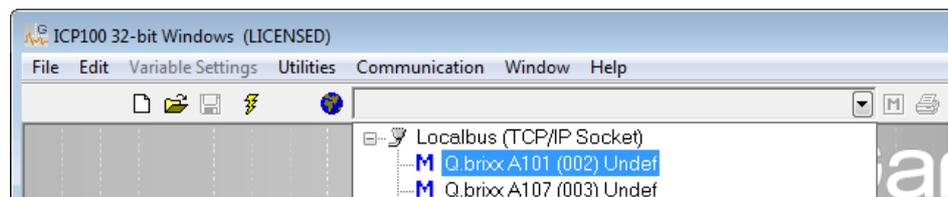

Abb. 5-2 Listing the modules found.
4. Start with **File > Bus scan** or click on  the interrogation of the modules connected to the bus coupler. The modules found are displayed (Fig. 5-2). If not all modules are displayed, check whether the module RUN-LED is lit. If not, either the module is not correctly connected to the previous module or it is defective.